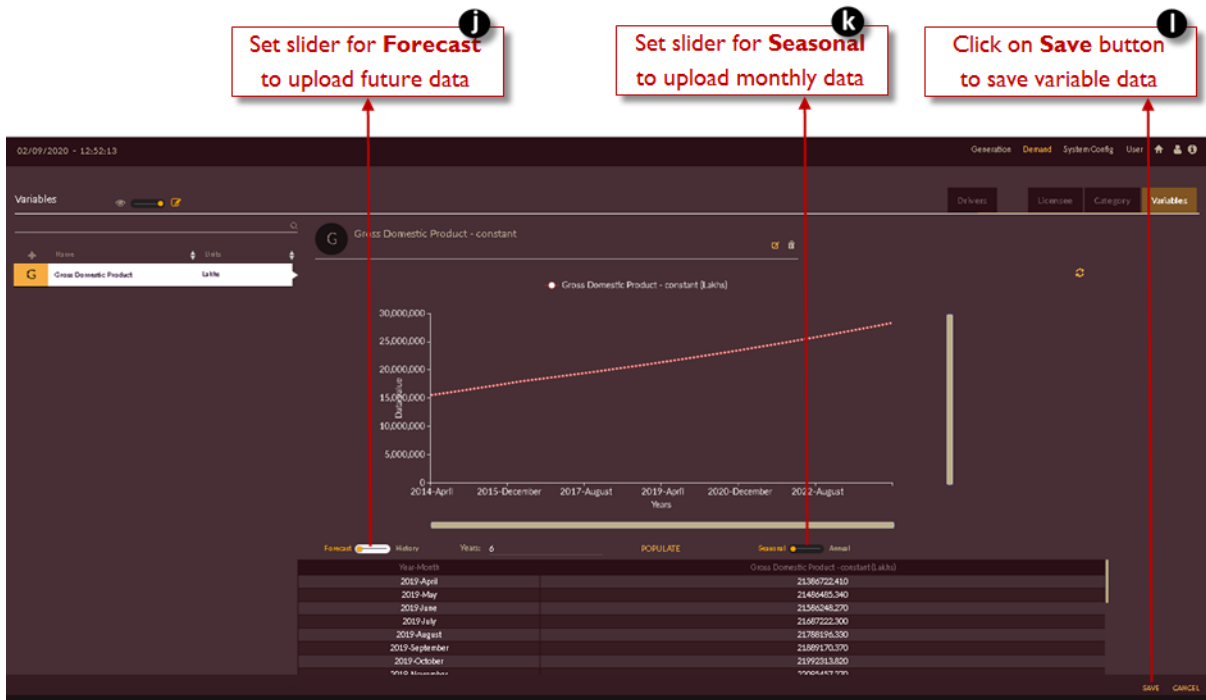

Figure 13. Seasonal Forecast Data of Variable
7. Figure 13 shows uploading of future seasonal data for variable ‘Gross Domestic Product’.